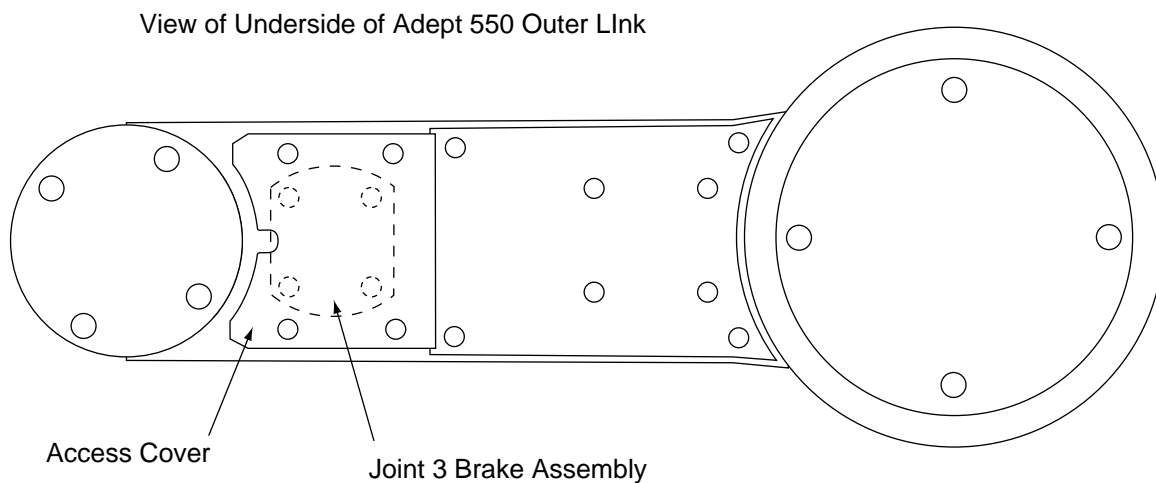

Figure 5-2. Location of Access Cover on Underside of Outer Link
2. Remove the access cover by loosening four screws (using 2.5 mm hex wrench) on the under side of the outer link. See Figure 5-2. Note the path of the cable that runs along the side of the opening so that you can route it the same way at the end of this procedure.